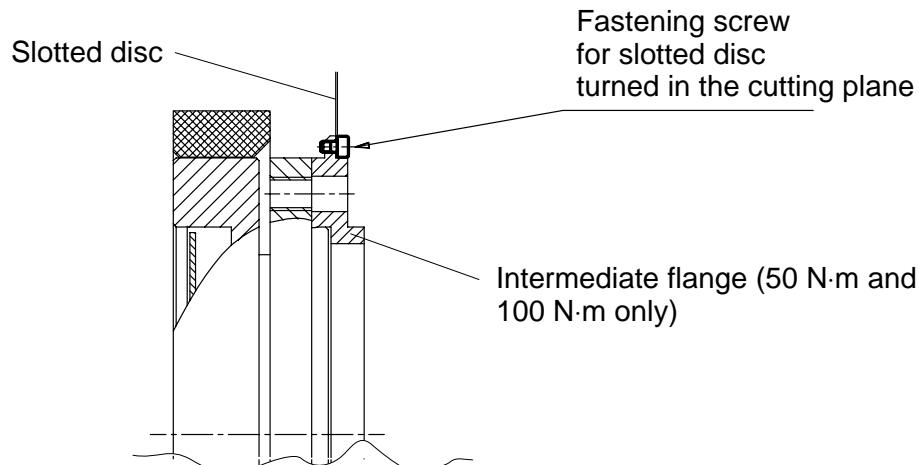

**Fig. 4.4:** Clamping piece assembly
2. Fasten the clamping piece with the enclosed screws as shown in Fig. 4.4. It is essential to use the new serrated locking washers.